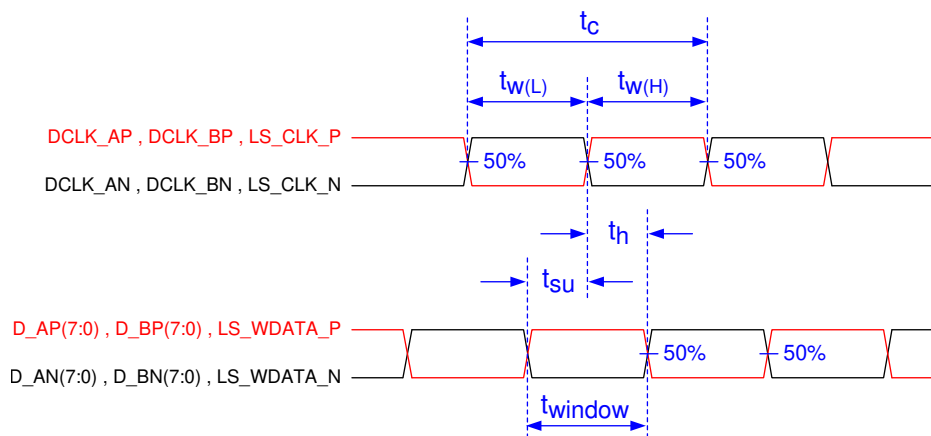

**Figure 2. LPSDR Input Rise and Fall Slew Rate**
(1) Specification is for DMD\_DEN\_ARSTZ pin. Refer to LPSDR input rise and fall slew rate in Figure 2.
(2) Specification is for SubLVDS receiver time only and does not take into account commanding and latency after commanding.